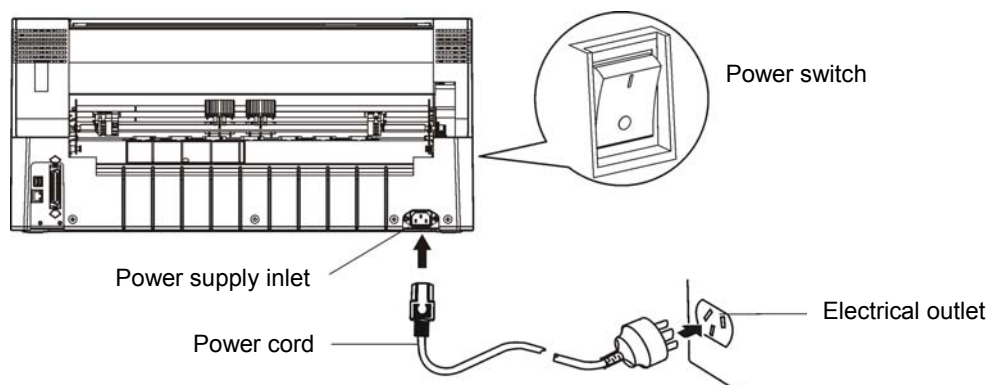

Figure 2-20 Connect the power cord to the printer
1. As shown in Figure 2-20. Make sure the printer is turned off. (The pressed down side of the power switch with "O" marks denotes the printer is off.)